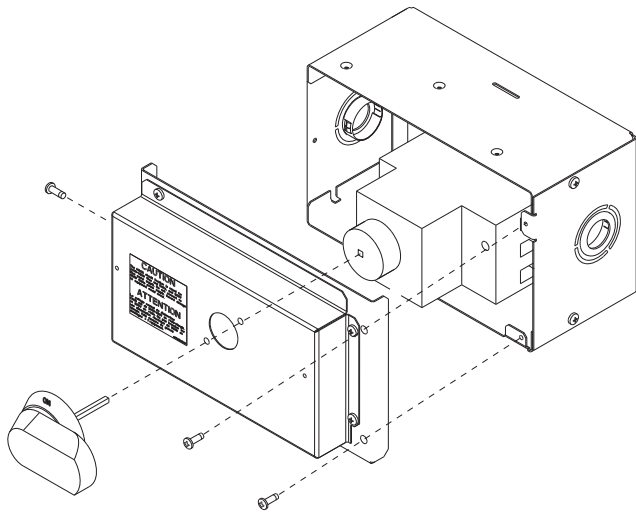

Fig. 32 — Handle and Shaft Assembly for HACR Circuit Breaker
2. Remove (3) hex screws on the HACR enclosure - (2) on the face of the cover and (1) on the left side cover. See Fig. 32.
9. Secure the handle to the painted cover with (2) screws and lock washers supplied.
10. Engaging the shaft into the handle socket, re-install (3) hex screws on the HACR circuit breaker enclosure.